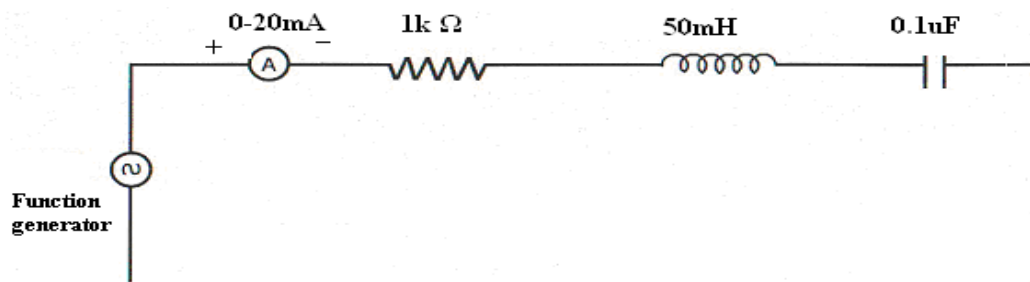
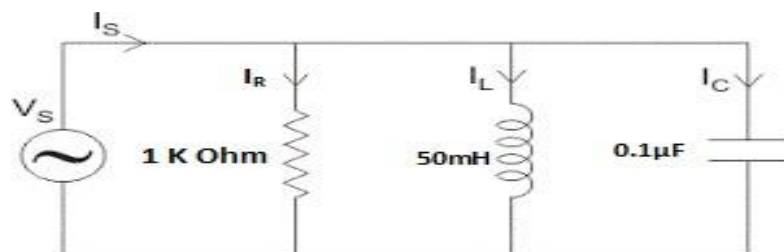

Fig.1
Fig.2
1. Make the connections as per the circuit diagram shown in fig 1.
4. Make the connections as per the circuit diagram shown in fig 2.
In the circuit (parallel RLC circuit) shown in figure.2, the condition for resonance occurs when the susceptance part is zero. The frequency at which the resonance will occur is known as resonant frequency. Resonant frequency,
1. Connect the circuit as shown in fig.1 for series resonant circuit & fig.2 for parallel resonant circuit.